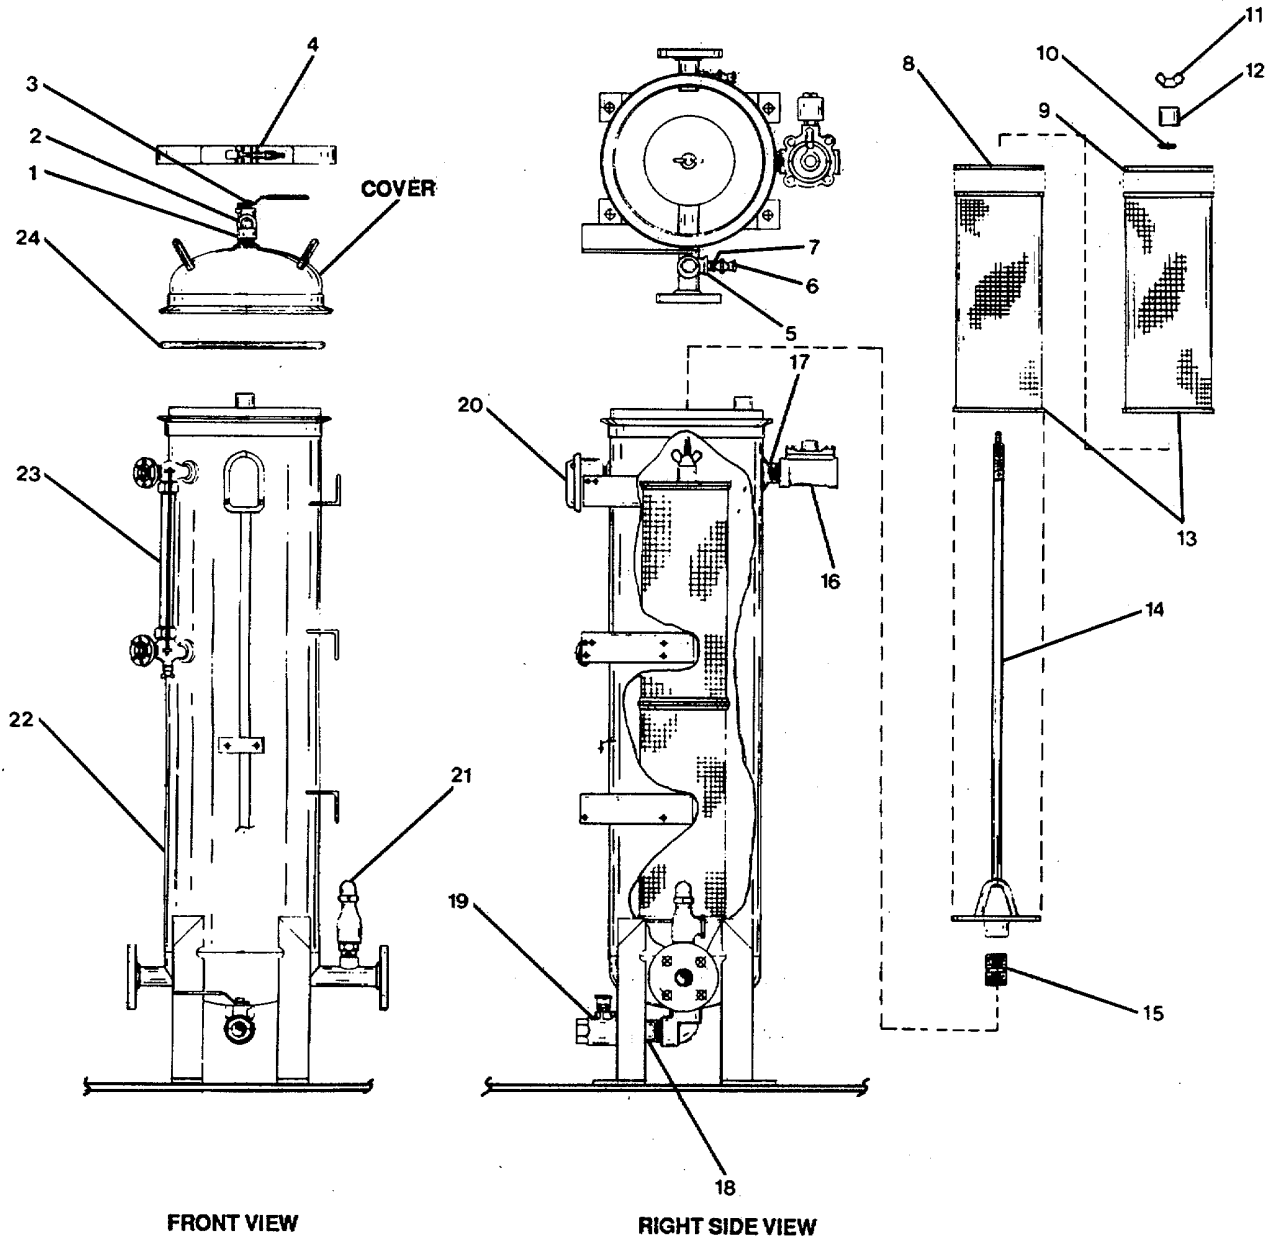

FIGURE 3-27. *Vessel Subassembly (Second Stage).*
**3-30. Repair Vessel Subassembly (Second Stage). (Figure 3-27)****This task covers:**